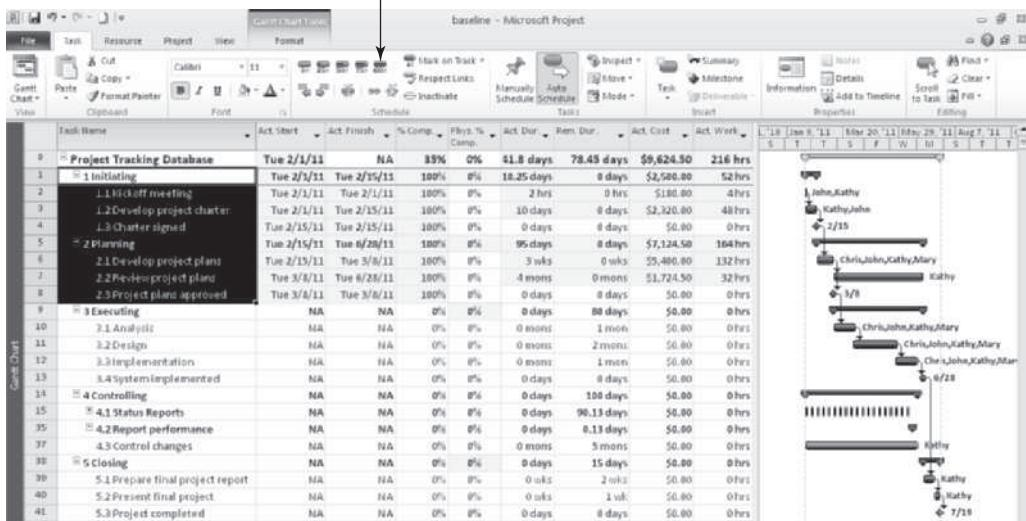

FIGURE A-50 Tracking table information
- Mark Tasks 1 through 8 as 100% complete. Click the **Task** tab. Click the Task Name for Task 1, **Initiating**, and drag down through Task 8 to highlight the first eight tasks. Click the **100% Complete** button under the **Schedule group** on the Ribbon. The columns with dates, durations, and cost information should now contain data instead of the default values, such as NA or 0. The % Comp column should display 100%. Adjust column widths if needed. Your screen should resemble Figure A-50. Note that you could also use the **Mark on Track** button to get the same results.